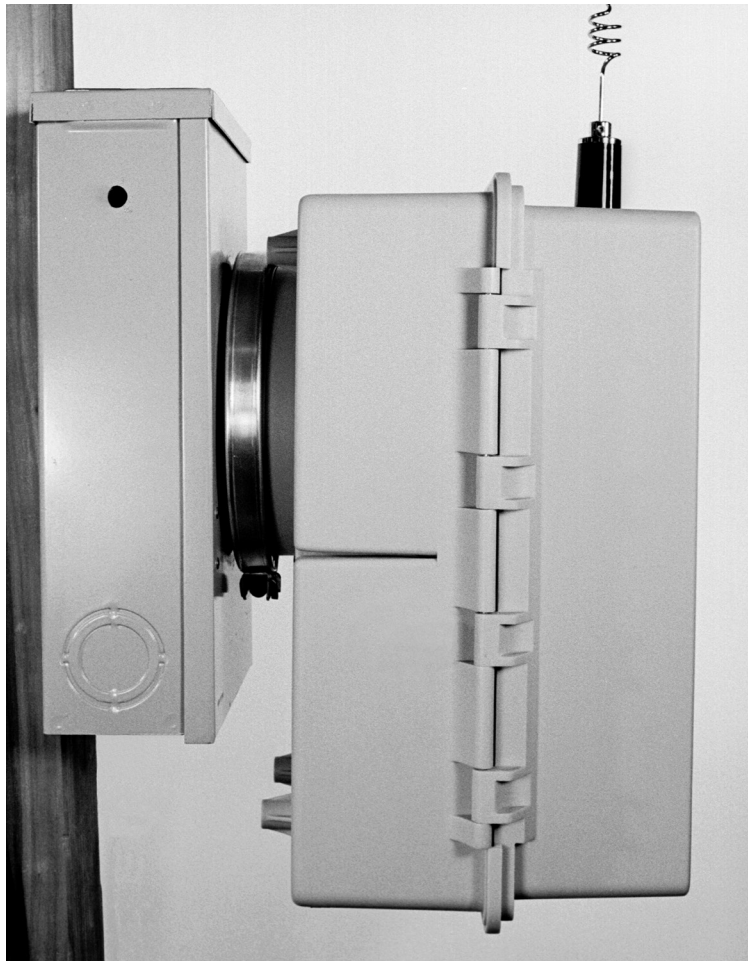

Figure 13. Side view of capacitor control enclosure and meter base, with a snap ring and crimp lock.
**STEP 3.** Plug control into the meter base socket. See Figure 13.